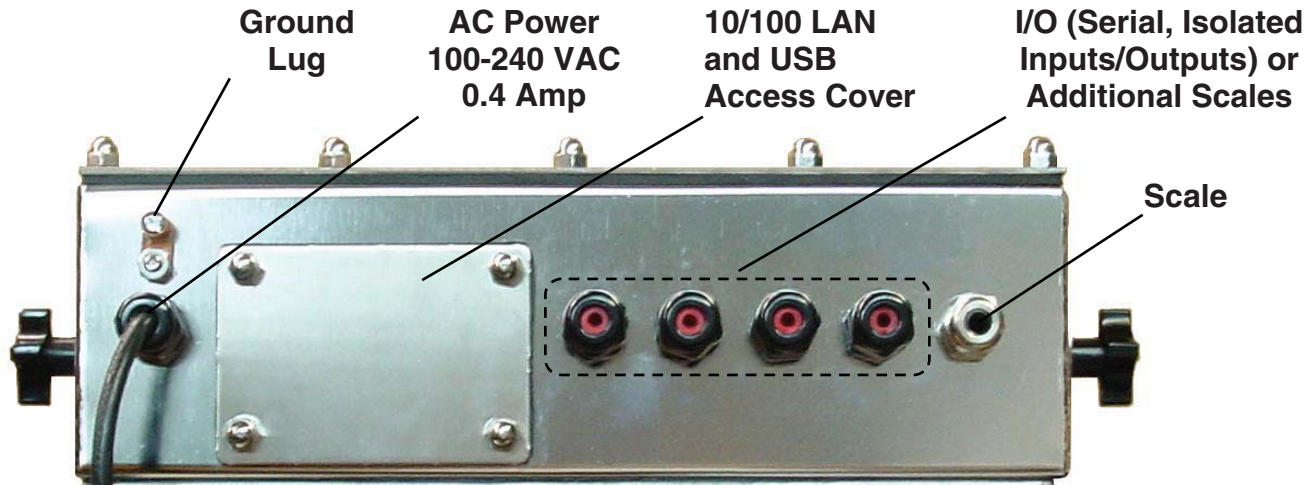

Figure No. 2
To eliminate RFI, the load cell cable should be routed through the special metallic gland connector and the shield wire from the load cell cable must be connected to this gland connector for grounding. Refer to Figure No. 2 for the gland connector layout.
2. Referring to Figure No. 2, choose a gland connector for the load cell cable and loosen it.
2. Referring to Figure No. 2, choose a gland connector for the I/O cable and loosen it.